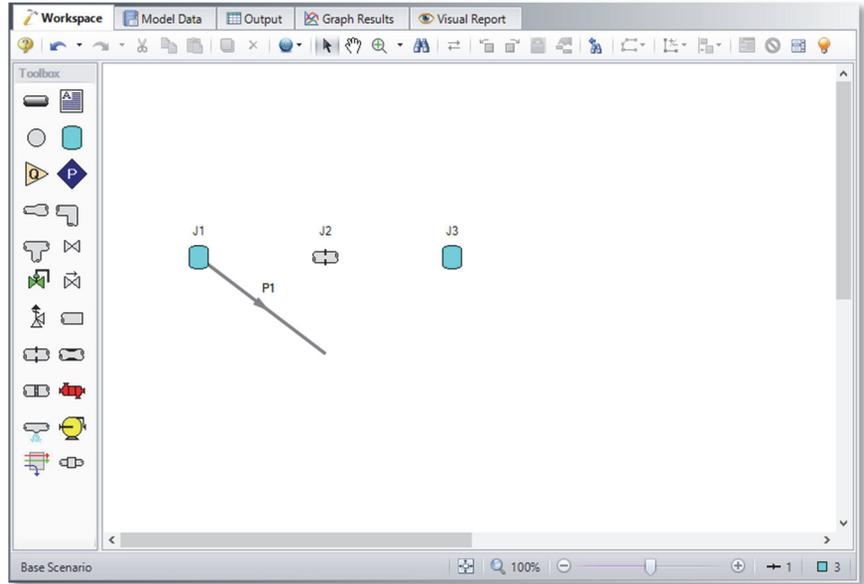
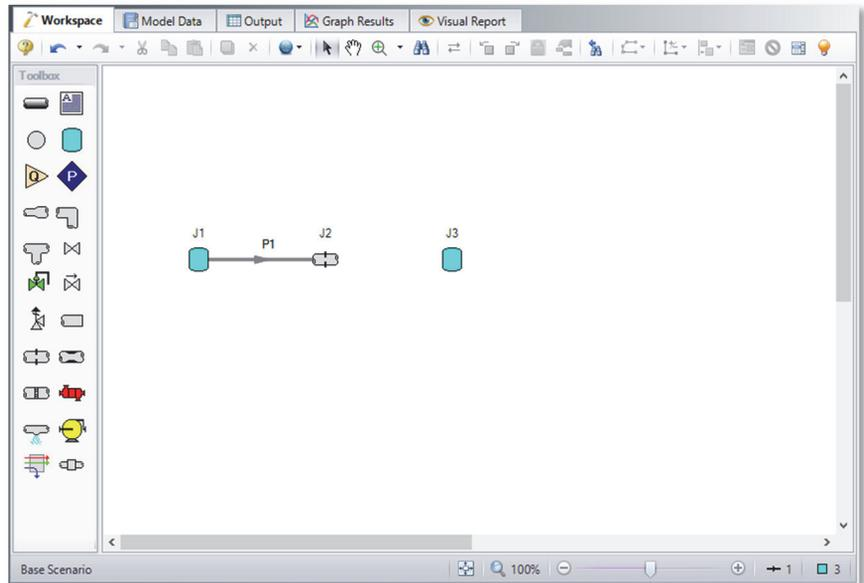

Figure 2.5d Walk through model with pipe partially connected
Figure 2.5e Walk through model with first pipe connected
- **To place the pipe between J1 and J2**, use the mouse to grab the pipe in the center, drag it so that its left endpoint falls within the J1 Tank icon, then drop it there (see Figure 2.5d). Next, grab the right endpoint of the pipe and stretch the pipe, dragging it until the endpoint terminates within the J2 Orifice icon (see Figure 2.5e).